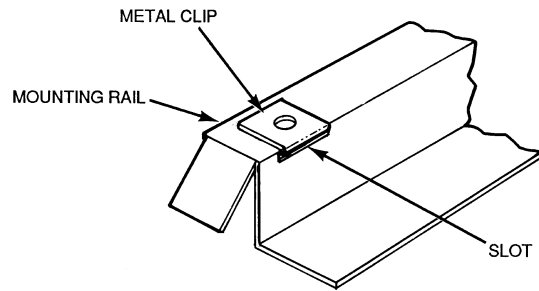

Fig. 5 – Remove Metal Clip on GE Metal Sleeve
**GE Metal Wall Sleeve** - Remove metal clip on mounting rail located on left, inside bottom, of metal sleeve and discard. See Fig. 5